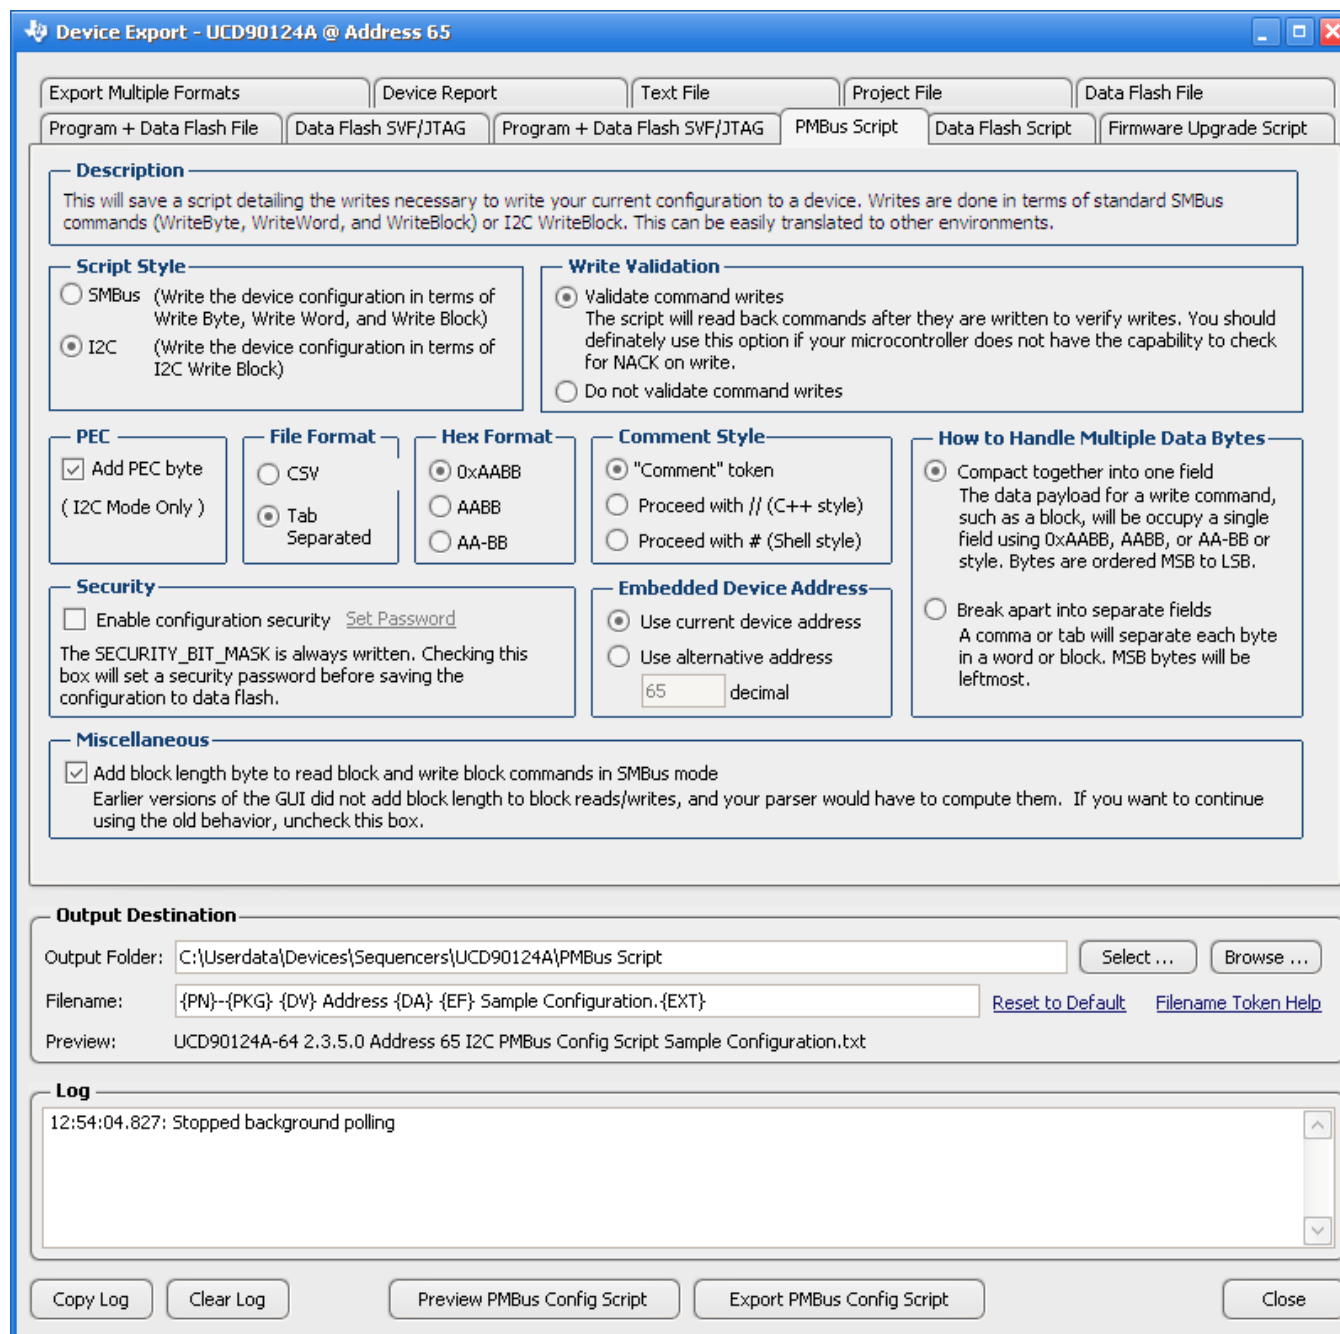

Figure 35. Fusion GUI PMBus Configuration Script Export Tool
2. The *Fusion GUI* (Figure 35) can create a PMBus or I^2C command script file that can be used by the I^2C